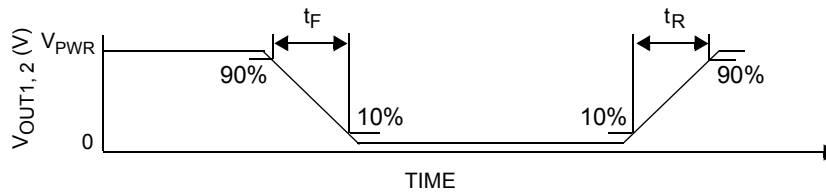

Figure 6. Output switching time
27. Rise Time is from the 10% to the 90% level and Fall Time is from the 90% to the 10% level of the output signal with  $V_{PWR} = 24\text{ V}$ ,  $R_{LOAD} = 3.0\text{ ohm}$ . See Figure 6, page 10.